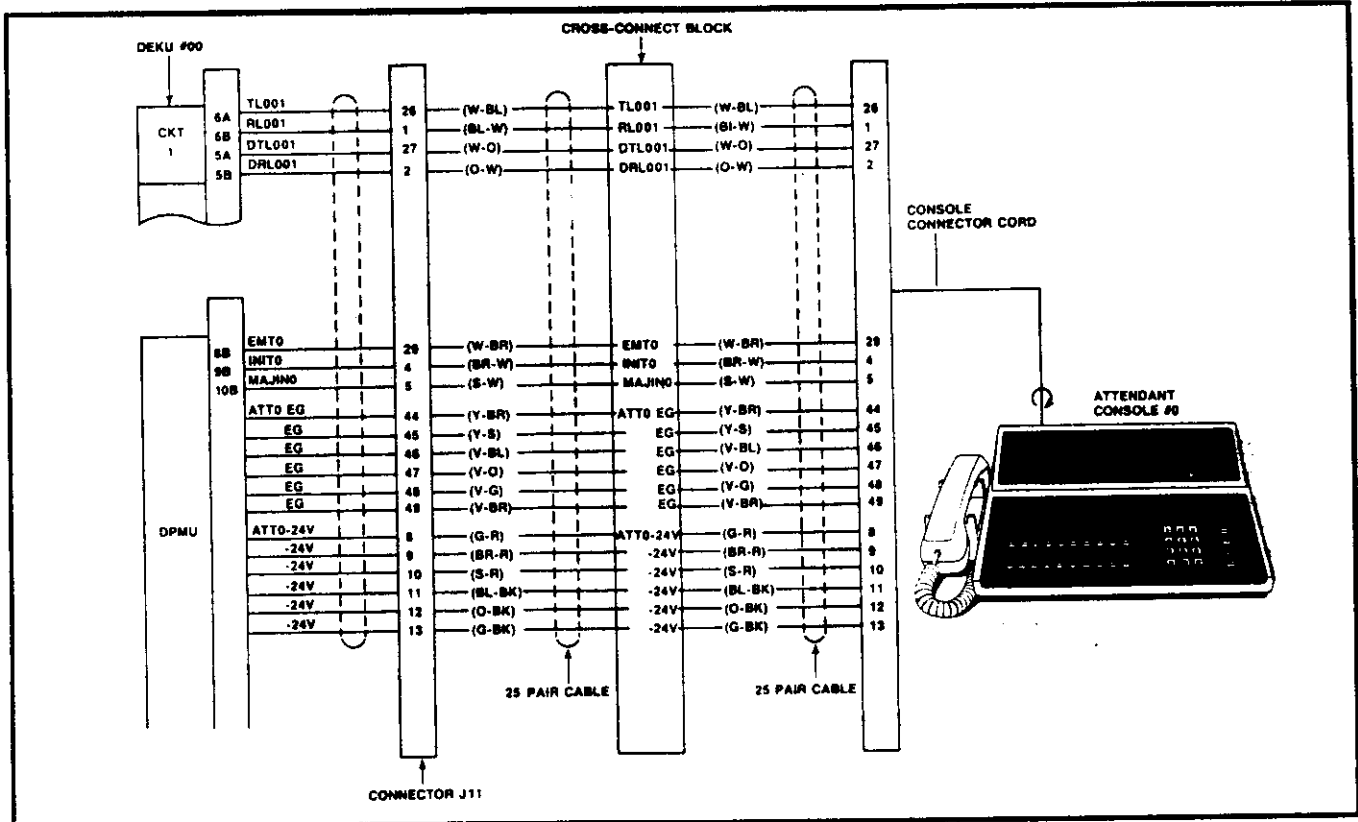

FIGURE 35—ATTENDANT CONSOLE #0 CONNECTION
08.52 Connection details for the attendant console(s) are shown in Figures 35 and 36.